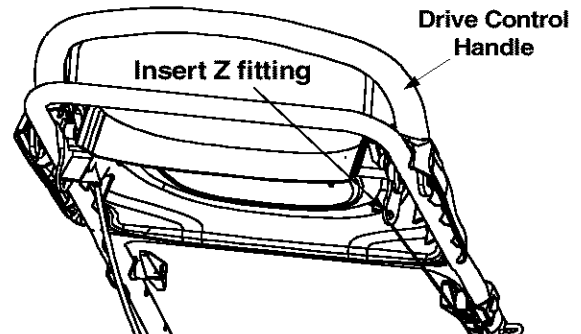

Figure 4
- While holding the drive control handle, hook the "Z" end of the drive cable into the bottom hole of the drive control handle from inside to outside. See Figure 4 .